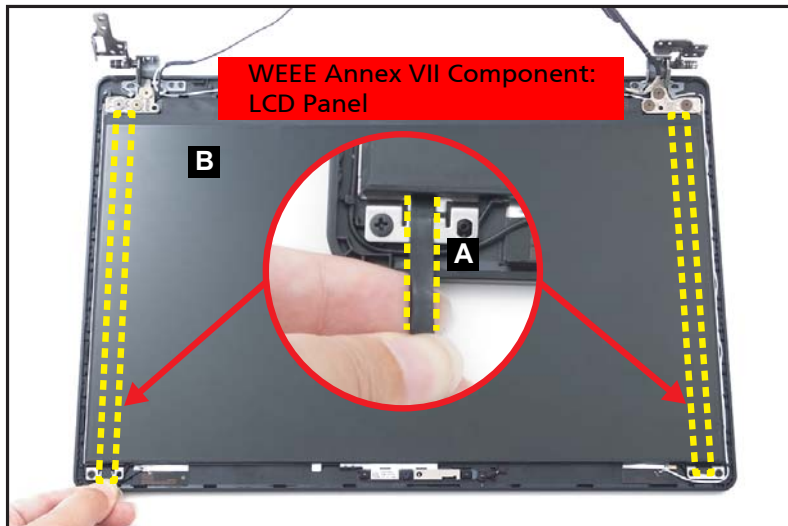

Figure 1-51. LCD Panel Removal
1. Pry slightly to access the double-sided mounting tape (A) underneath the LCD panel (B). Then pull to detach the double-sided mounting tape from the LCD cover. Repeat the same procedure to remove the double-sided mounting tape on another side of the LCD panel (Figure 1-51).